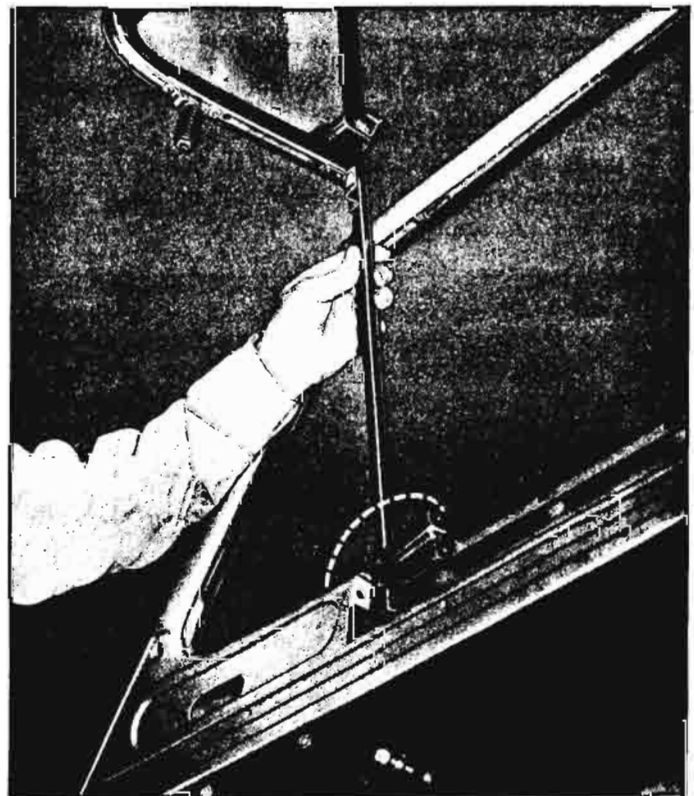

Fig. 10-48a—Removing Ventilator Assembly
5. Rotate ventilator assembly approximately 180° so mounting bracket will clear door opening (fig. 10-48a).